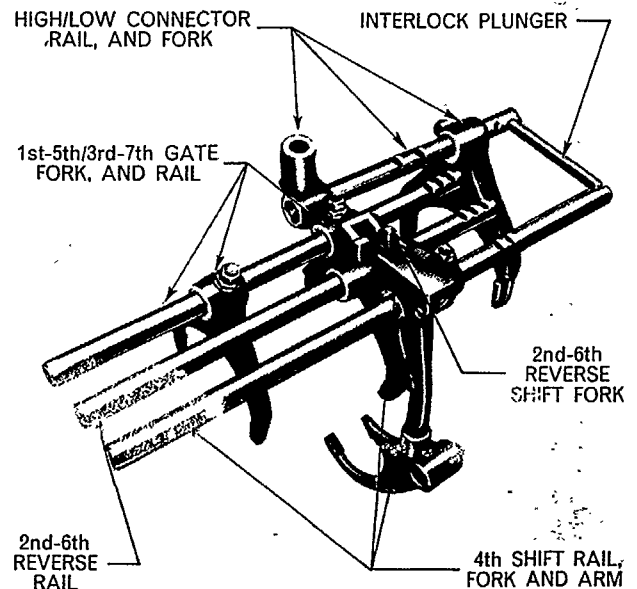
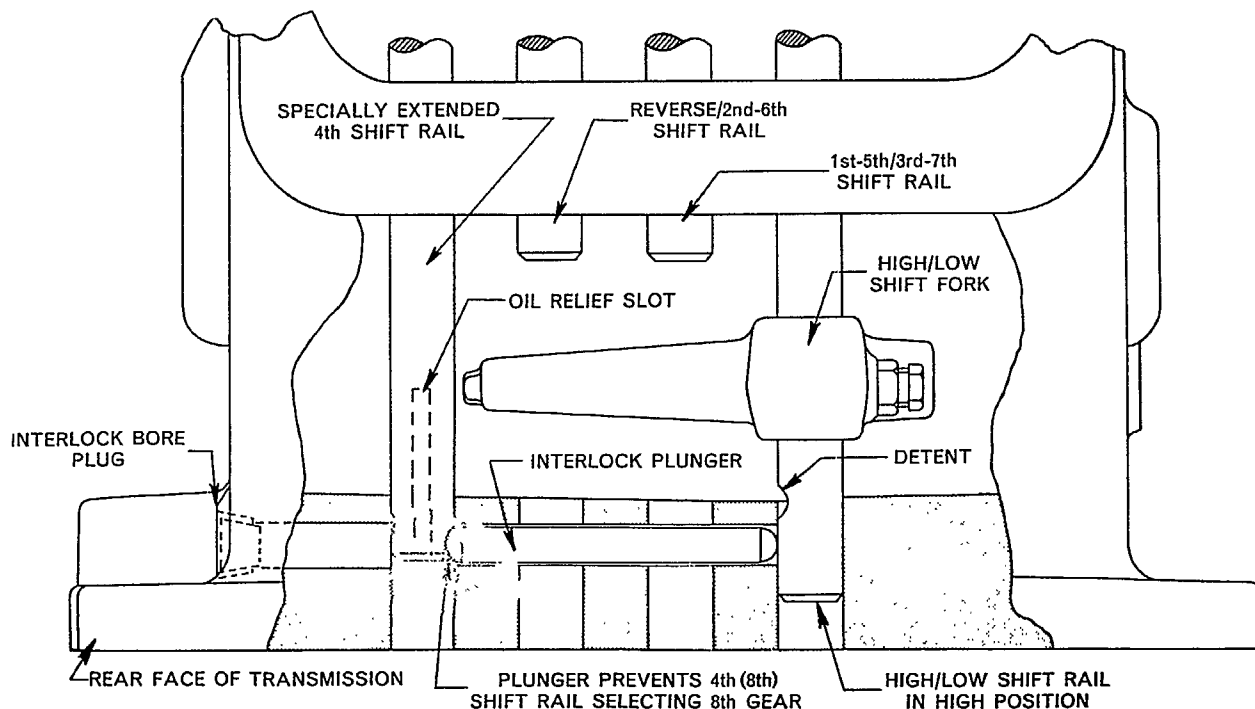

Figure 52
Figure 53. 7-Speed Interlock Plunger Diagram
1. A special interlock plunger is located between the High/Low shift rail, and the 4th/8th shift rail, Figure 52. This plunger prevents the 4th/8th shift rail moving into the engaged (rearward) position when the High/Low rail is in the High position, Figure 53. Conversely, it prevents the High-Low shift rail moving into the High position when the 4th/8th rail is in the engaged (rearward) position. Hence, 8th gear is locked out without interfering with the rest of the shift mechanism. This interlock system involves only three parts which are different to the eight-speed transmission. These are an extended 4th shift rail with an extra detent; a High/Low shift rail with an extra detent; and the interlock plunger itself, Figure 52. This system is identical in both the Dexta/Super Dexta, and the Major, seven-speed transmissions.
3. Make sure the High/Low shift rail is in the Low position (rearward). Remove the locknut and retaining screw from the 4th shift arm assembly, Figure 52.
2. Install the 1st-5th/3rd-7th shift rail, Figure 52, in the second bore from the right-hand side, assembling the gate and fork, and installing the retaining screws and locknuts. Tighten the screws and locknuts to the specified torque. (See Specifications, Chapter 3.)
5. Install the 4th shift rail into the left-hand shift rail bore, assembling the 4th shift arm assembly. Make sure the bottom of the arm is located in the 4th shift fork, Figure 52, and install the retaining screw and locknut. Tighten the screw and locknut to the specified torque, (See Specifications, Chapter 3.)